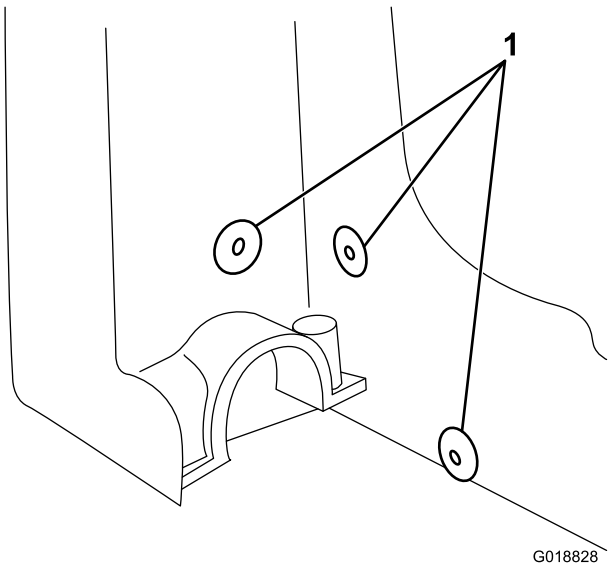

Figure 3
8. Secure the back end of the reinforcement bar with 3 pop rivets in the previously drilled holes (Figure 3).